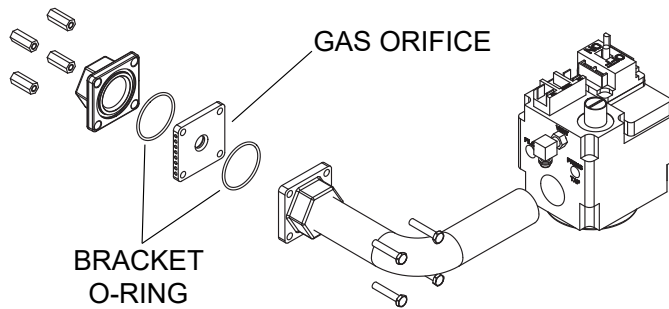

Figure 64. Orifice Location
4. Locate and remove the four (4) bolts & nuts holding the gas orifice in place. See **Figure 64**.